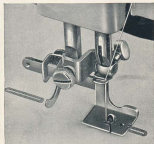
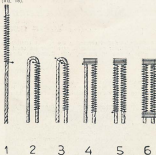

Fig. 15
Fig. 16
When the stitch regulating lever B is at right, the stuff is not moved and no stitch is made. To lengthen the stitch, the button G (Fig. 15) must be slightly loosened, after which the stitch regulating lever can be lowered or raised according to forward or backward stitching and to the length of the stitch required.
Thanks to his patented device for displacing the needle is straight working to the left or to the right, a quick and exact work can easily be obtained. Button holes can be sewn with or without a reinforce thread, but it is advisable to use it, as the holes will last longer. To make button holes, the special foot (fig. 15) with plate-C must
after the other, namely the two sides and the two ends (fig. 16).
When the special foot is fitted at the place of the ordinary foot and the work is in the right position (fig. 15) with the width of the stitch at a minimum (and the reinforce thread in its hole), the hem 1 (fig. 16) can be sewn, and then at the required length, which can be fixed with the index 1 of the device (fig. 15), the needle is left in the stuff from the right side and the work is turned with the stuff presser bar raised contrary to the hands of the watch in order to avoid having to pass the stuff below the arm of the machine (2), (fig. 16), so that the button hole already sewn is guided in the groove of the right side of the foot; then make a stitch so as to bring the needle quite to the left (3, fig. 16) by drawing slightly the work towards yourself and by stretching out the reinforce thread by removing the width of the stitch to a maximum (lever 2 to the right against the index) and by lowering the stuff presser bar the first end of the button hole is made (4, fig. 16). In the same way (lever 2 against the plate) are made the second side (5, fig. 16) and the second end (lever 2 to the right against the index).